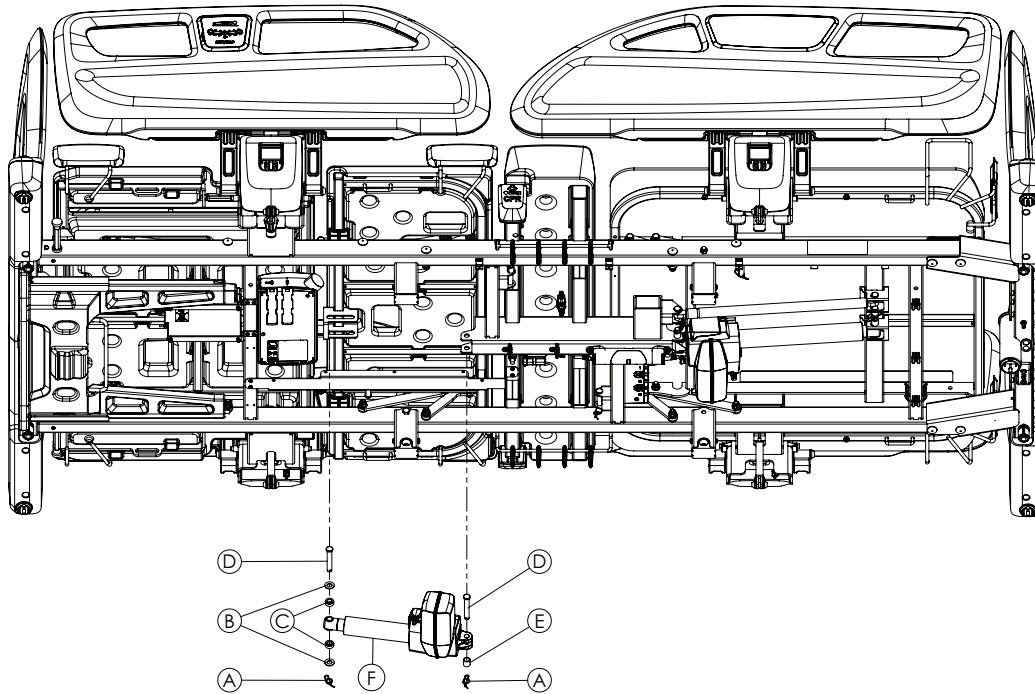

Figure 11 – Gatch leg rest actuator
6. Using needle nose pliers, remove the rue ring cotter pins (A) from each clevis pin (Figure 11). Discard the rue ring cotter pins.